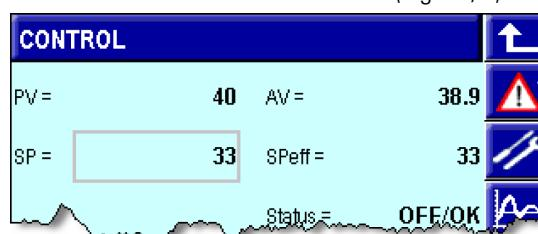

Fig. 45: Active alarm
- **Call:** Click on the "Alarm" button (Fig. 45/1) to call the alarm page.